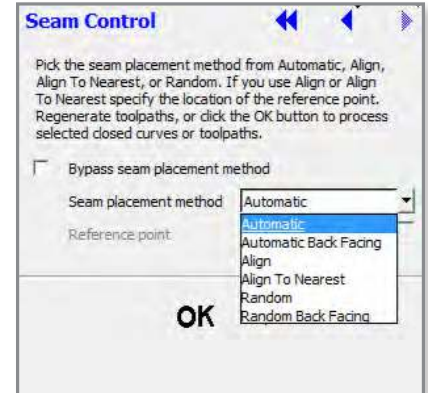

Figure 4: Seam Control menu.
**STEP 4:** Select the desired seam placement method: *Align*, *Align To Nearest*, *Random*, *Automatic Back-Facing*, or *Random Back-Facing* (Figure 4).